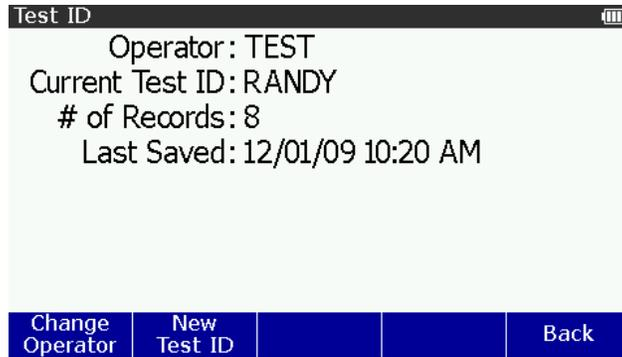

Figure 50. Operator ID Screen
3. Push **ENTER** to open the **Test ID** screen shown in Figure 50.